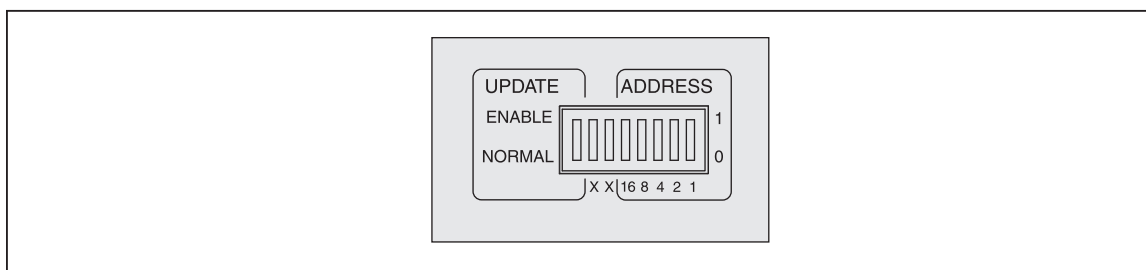

Figure 3-1. IEEE Bus Address Switches
The address that the product responds to on the IEE 488.1 bus is set by switches on the rear panel. See Figure 3-1. The right hand 5 of these switches are used to set the address. The right most switch (1) is the least significant bit, and switch 5 (16) is the most significant bit.